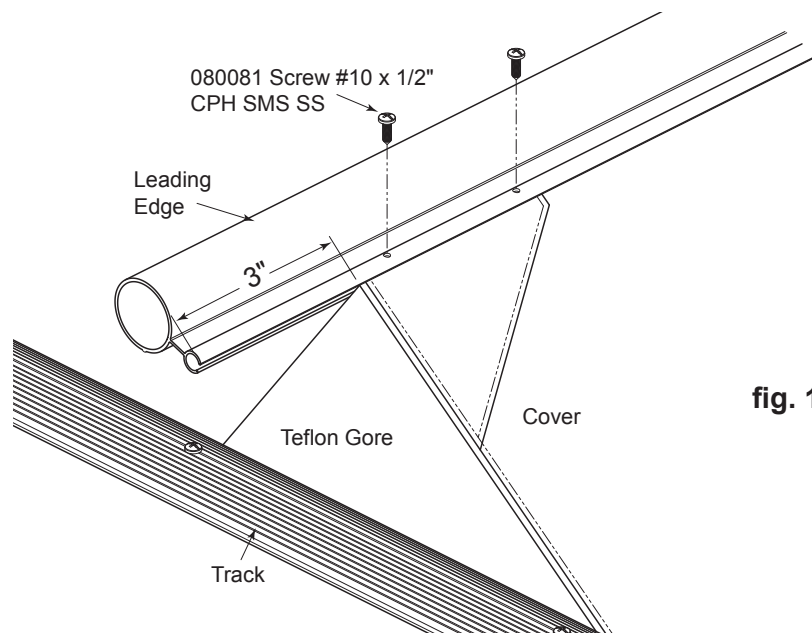

fig. 11
7.1 Install the fabric to the leading edge. (fig. 11)